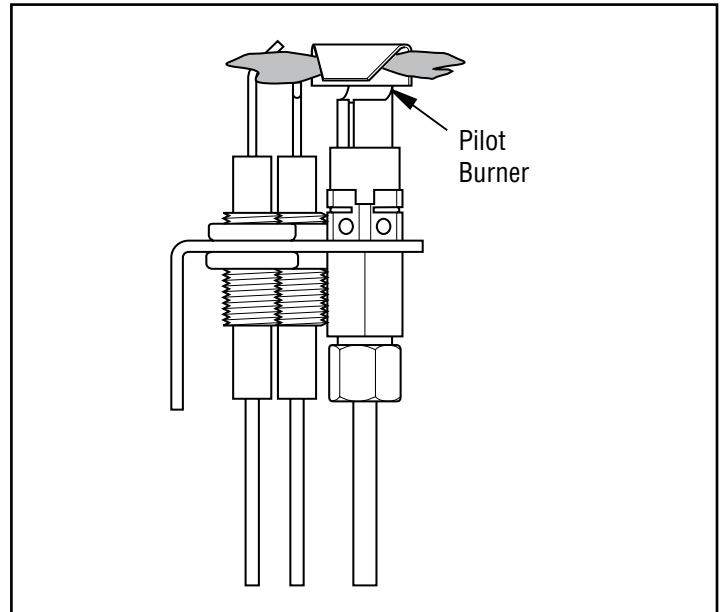

Figure 48 - Correct Pilot Flame Pattern
- Turn the adjustment screw marked PILOT clockwise to decrease or counterclockwise to increase the flame to proper size (see **Figure 48**). Do not remove the adjustment screw.